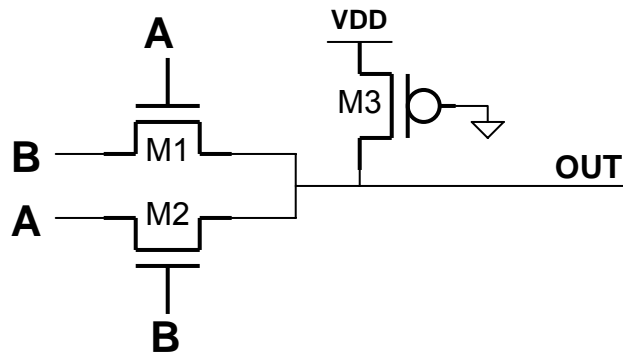

Figure 5.1
5. a) Given the gate in Figure 5.1 below, provide the function OUT. [3 points]